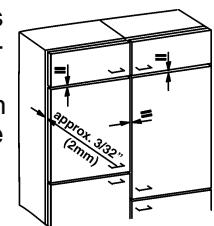

Fig. 26
- Tighten the locknuts Fig. 26 (32) with the ring wrench Fig. 26 (37) while bracing the adjusting bolts Fig. 26 (33) with a screwdriver.